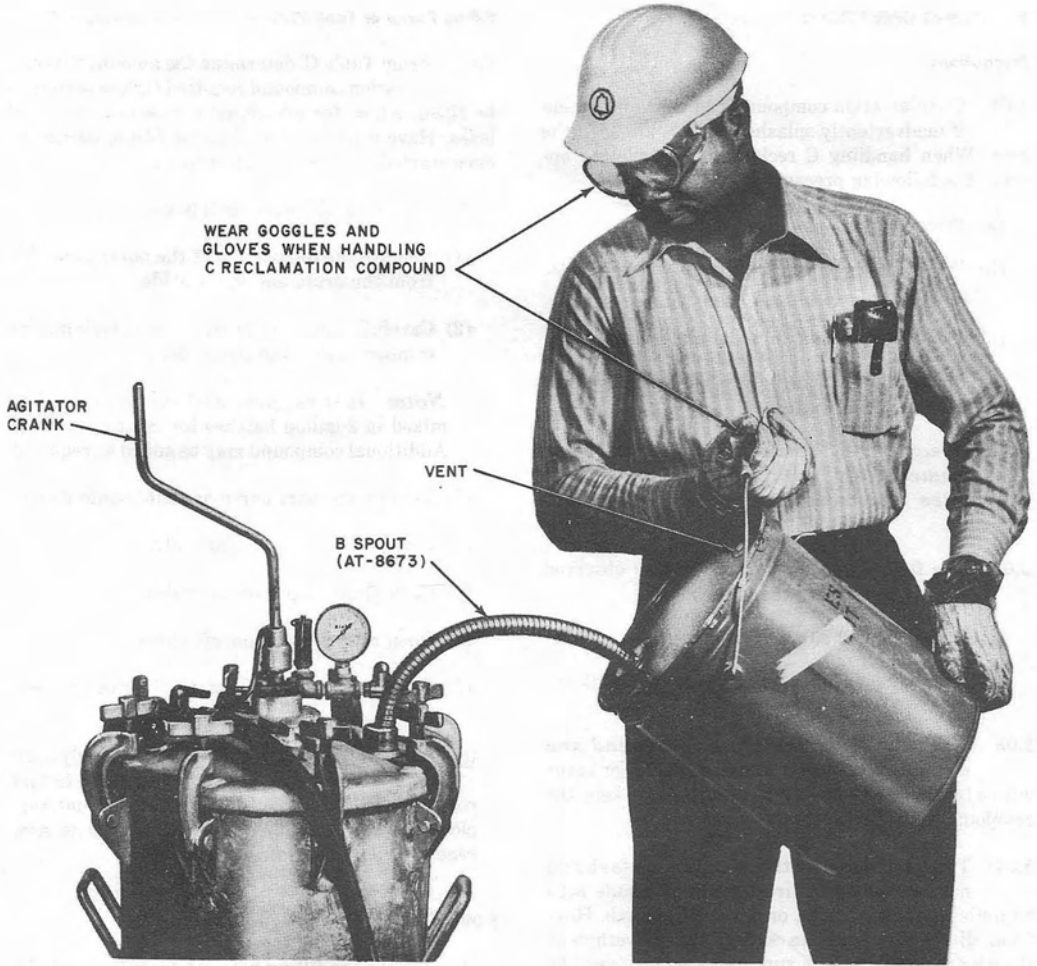

Fig. 14—Pouring C Reclamation Compound Into C Tank
- (1) Remove the filling hole cap from the tank lid.
- (2) Remove the cap and seal from the pouring hole of the Part I container and replace the cap with a flexible pouring spout. Also, vent the cover of the compound container opposite the pouring spout by punching holes in it.
- (3) Carefully insert the flexible pouring spout into the tank filling hole and pour the Part I liquid into the tank (Fig. 14).
- (4) Repeat Steps (2) and (3) for Part II.
- (5) Replace the filling hole cap on the tank lid.
- (6) Place the agitator crank handle on the agitator shaft projecting through the center of the tank lid.